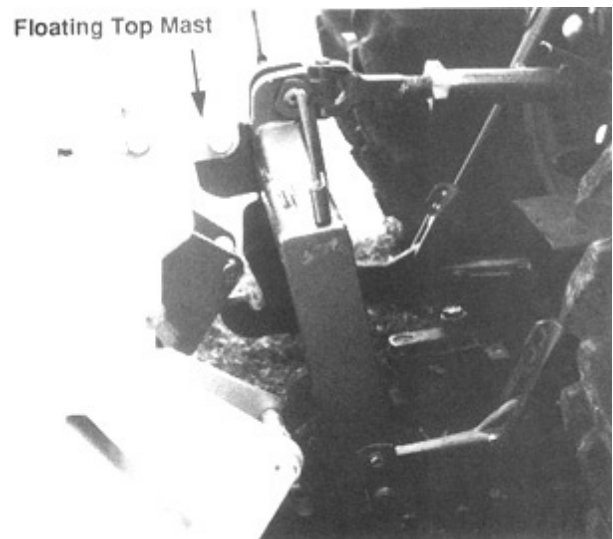

Figure 14. Free-float position
4. **3-Point models only:** Be sure the floating mast is free to slide in its mounting frame to allow the machine to follow ground contours. Refer to Figure 14.